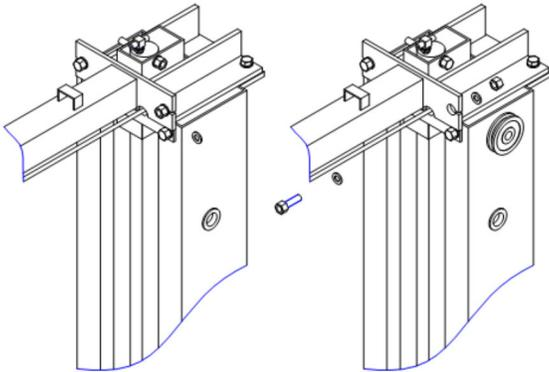

Fig. 7a
- A. Install cylinder mounts (uprights) using 2ea 1/2" x 1-3/4" bolts, washers & nuts on each end, (Figs. 7a, 7b, 7c). **NOTE: ENSURE OVERHEAD LIMIT SWITCH ASSEMBLY IS ON THE MAIN SIDE COLUMN SIDE.**